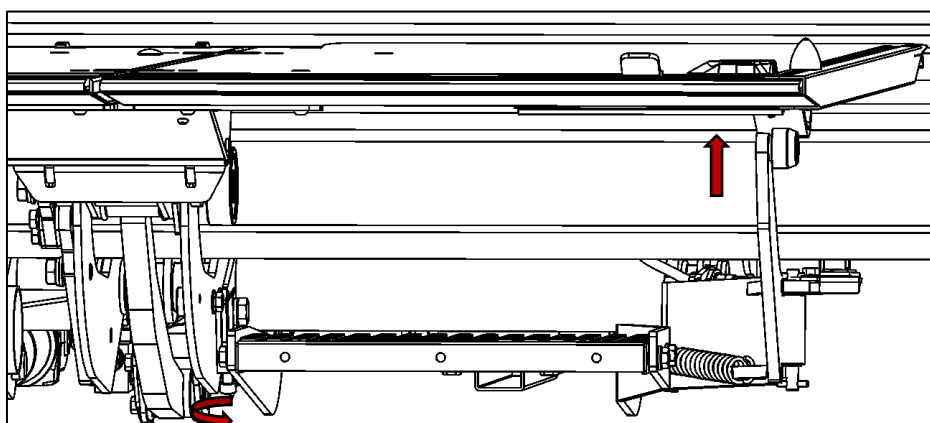

Fig. 73
- Use the adjustment screw (1) to set the support arm (4) so that the platform stop rests on and is supported by the support arm (4).
- Rotating the adjustment screw (1) to the right lifts the support arm (4).
- Rotating the adjustment screw (1) to the left lowers the support arm (4) (see Fig. 73).
- When finished adjusting, tighten the bolt (3) for securing the torsion bar to 115 Nm (see torque table on page 69).